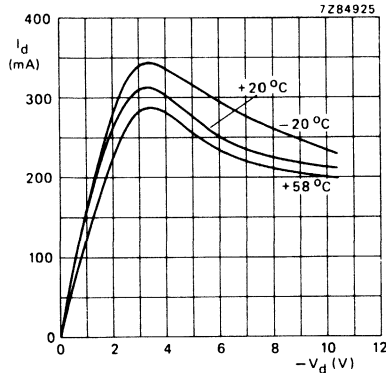

Fig. 2 D.C. bias characteristics of the Gunn oscillator for $T_{hs} = -20, +20$ and $+58$ °C.
2. The power supply should be low-impedance voltage regulated and capable of supplying approximately 1,5 times the normal operating current to initiate oscillations. See Fig. 2.